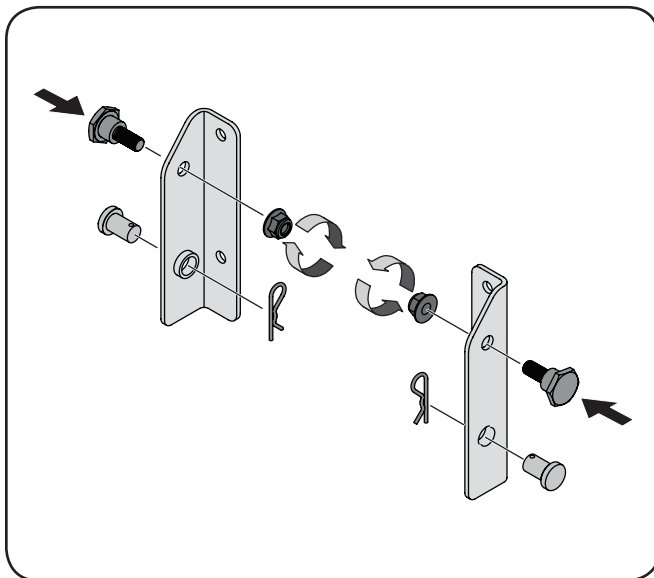
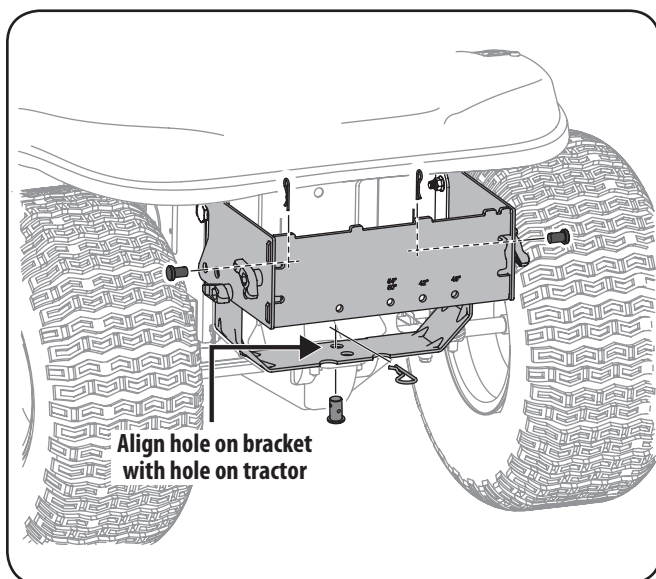

Figure 4-1
Figure 4-7
1. Install a shoulder bolt from your hardware pack on each bracket, securing them with flange lock nuts also included in the hardware pack. Refer to Figure 4-1.
2. Insert the clevis pins from your hardware pack on each bracket, securing them with clip pins also included in the hardware pack. Refer to Figure 4-1.
Note: Install two clevis pins through the mounting assembly and secure to the 700 series mounting brackets installed earlier with click pins provided with the model 700 mounting kit. Refer back to Figure 4-1 and see Figure 4-7 below.